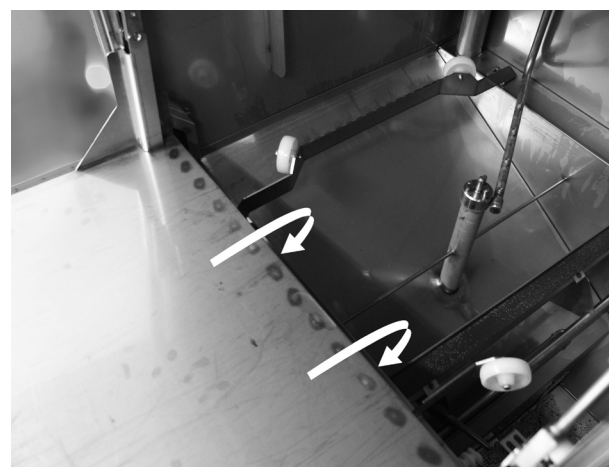

Figure 22: Door seal
11. Rinse the lower part of the door (with the door fully open) and clean the rubber seal on the lower part of the door (see arrows Figure 22 Door seal). Wipe the upper part of the door with a damp cloth.